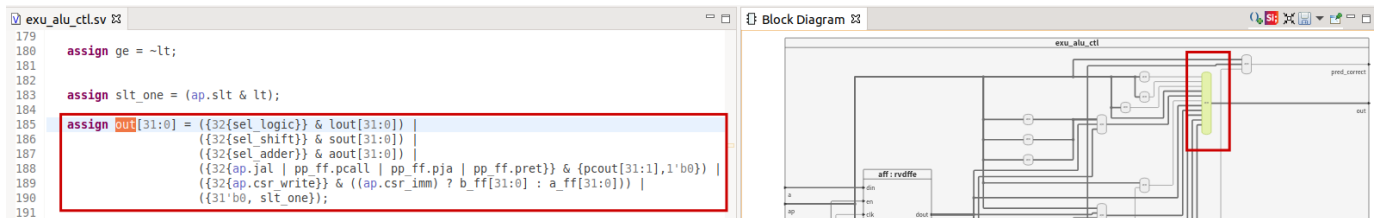

Figure 10. Highlight the Verilog code for the combinational module that generates signal `out`
- You can also look for the implementation of a combinational module in the Verilog code, by double-clicking on the module in the Block Diagram. For example, in Figure 10, the module that generates signal `out` is shown.